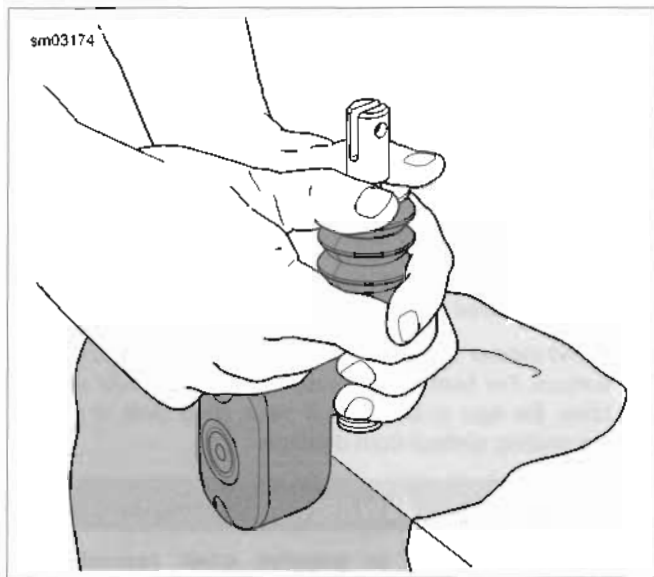

Figure 2-48. Removing Clevis
3. See Figure 2-48. Push down on large flat washer to compress spring. While holding the spring in a compressed state, remove retaining ring from groove in clevis and then carefully release spring. Discard retaining ring.